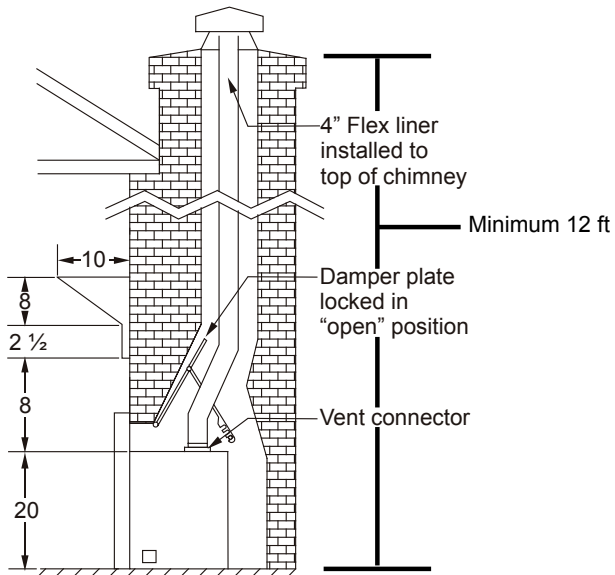

Figure 4. Installation requirements and mantle clearances.
- Install flex liner or B-Vent inside the masonry chimney all the way to the top of the chimney cap. Vertical vent height must be a minimum of 12 feet from the bottom of the fireplace to the bottom of the termination (See **Figure 4.**)